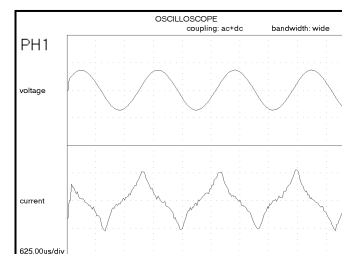
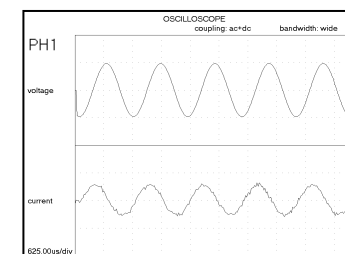

Fig 1 (Distorted current waveform)
Fig 2 (Correct current waveform)
**Note:** The amplifier contains an output rms current protection circuit, and when driving some capacitive loads this circuit may be activated. Due to capacitor construction, at high current the amount of energy transfer distorts the current waveform resulting in excessive peak current (Fig 1 on next page), whilst the rms value remains within specification. To ensure correct functionality and prevent false triggering of the protection circuit, ideally the current waveform should be a sinewave as pictured in (Fig.2 on next page).